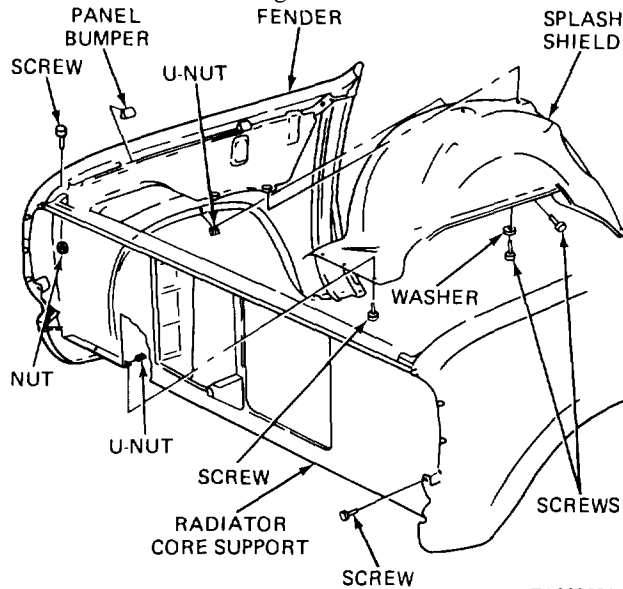

Figure 26-1. Radiator Core Support and Splash Shield. TA208051
a. Removal. Refer to figure 26-1.